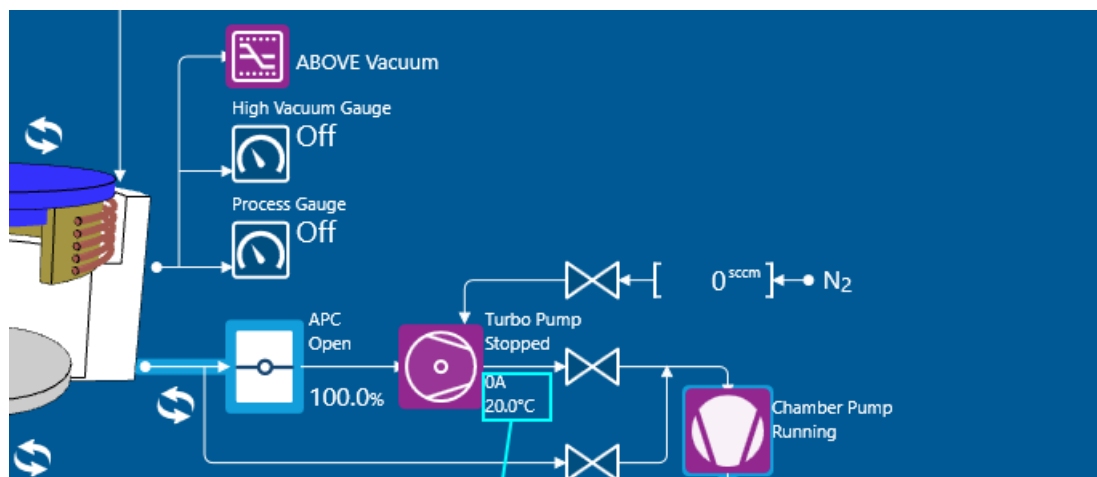

Figure 6-3 Turbo pump temperature
- 2 Check that the value displayed in the information field next to the Turbo Pump (see Figure 6-3). This value must be within the appropriate range listed in Table 6-4.